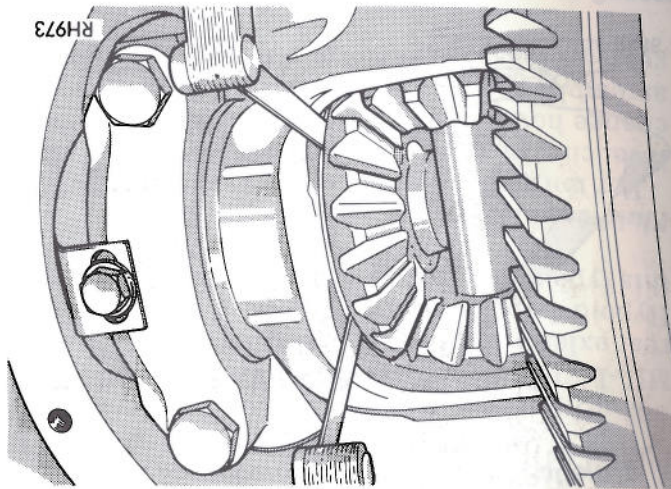

Fig. 31—Insert a Matched Pair of Thickness Gauges to Determine Clearance
(1) With the axle shaft and "C" locks in place, measure the clearances behind each side gear by inserting a matched pair of gauges on opposite sides of the hub (Fig. 31).
(2) If you measure .005" clearance, or less, see if the axle shaft on that side is contacting the pinion shaft. Do this with the gauges still in place behind the side gear. If the axle shaft does not contact the pinion shaft, the side gear fit is acceptable on that side. Repeat for other side.
(3) If you measured more than .005" clearance in step 1 and the axle shaft does not contact the differential pinion shaft, then record the side gear clearance. Remove the thrust washer and measure its thickness with a micrometer. Add the washer thickness to the side gear clearance you recorded. The sum of the two numbers will tell you which replacement washer to install. For example, if you find .007" side gear clearance, and measure thrust washer thickness at .033" the total is .040". Install the thickest thrust washer from the service package that does not exceed the total above. In this case you would install the .037" washer from the service package, since the next larger size .042" would be too thick. When re-assembled, side clearance should now be .004".
(4) In some cases the axle shaft will run up against the pinion shaft when feeler gauges are inserted behind the side gear. When this occurs, the "C" lock on the axle shaft prohibits the side gear from moving inward any farther. To find the total side gear clearance, measure the clearance again with the "C" lock out. Record your